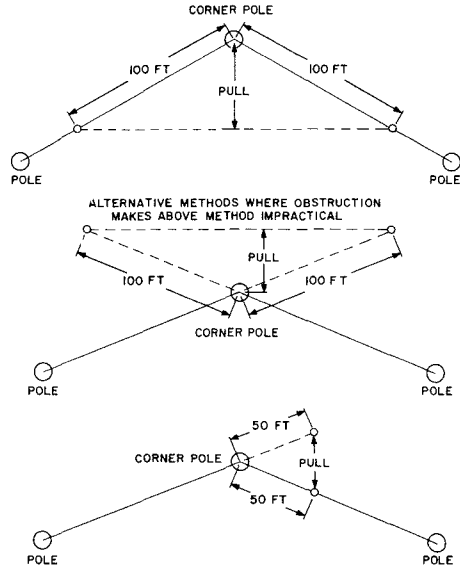

Fig. 2—Measuring Corner Pull (Taping)
3.01 Pull at a corner pole is defined as the distance in feet measured as shown in Fig. 2. The two lower illustrations show two alternative methods for determining the pull on a corner pole where trees, shrubbery, or other obstructions make the first method impractical.
4.01 Although Fig. 2 defines pull at a corner pole, it is more convenient to measure pull with a C pull finder.